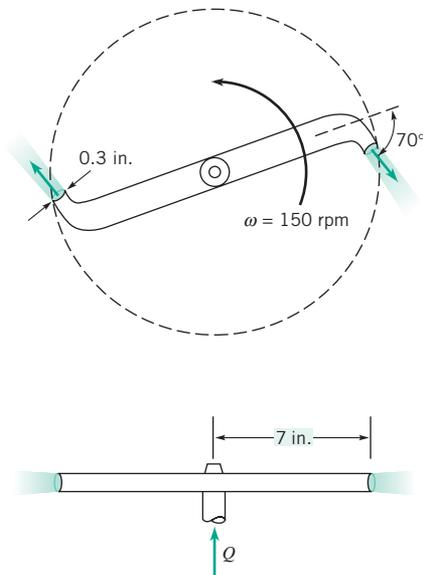

FIGURE P11.1
11.1 Water flows through a rotating sprinkler arm as shown in Fig. P11.1 and Video V11.2. Determine the flowrate if the angular velocity is 150 rpm. Friction is negligible. Is this a turbine or a pump? What is the maximum angular velocity for this flowrate?